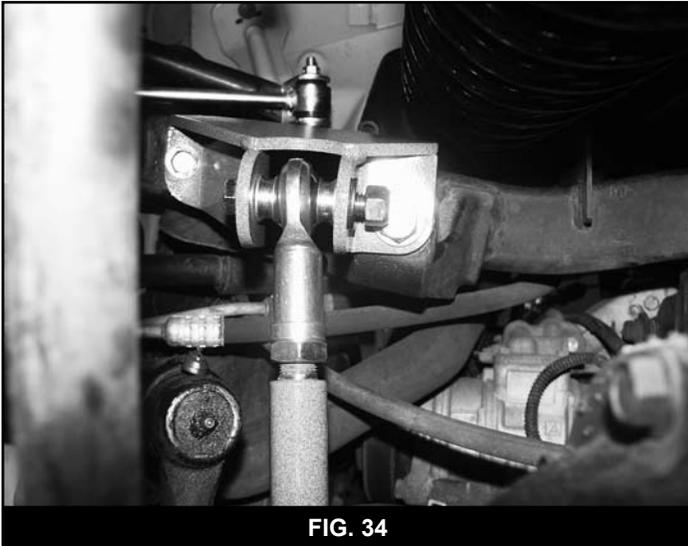

FIG. 34
89. With the track bar end adjusted to the appropriate length, attach the end to the track bar bracket with a  $\frac{1}{2}$ " x 3" bolt, nut and  $\frac{1}{2}$ " SAE washers (BP 753). Torque  $\frac{1}{2}$ " mounting bolts at the frame and axle to 65 ft-lbs. Be sure the rod end is square in the bracket and lock off the jam nut securely (Fig 34).